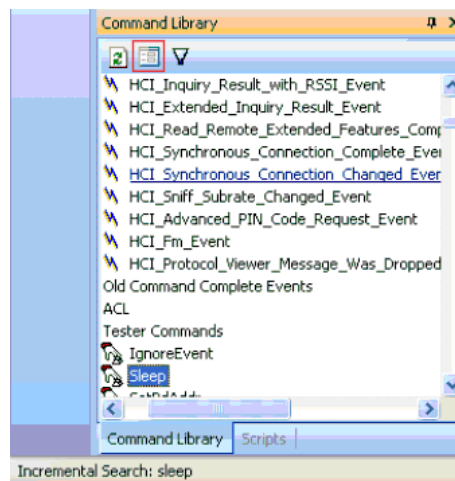

Figure 3. Command Library Pane
1. From the toolbar, open the View menu and select Command Library. The Command Library pane appears (see Figure 3).